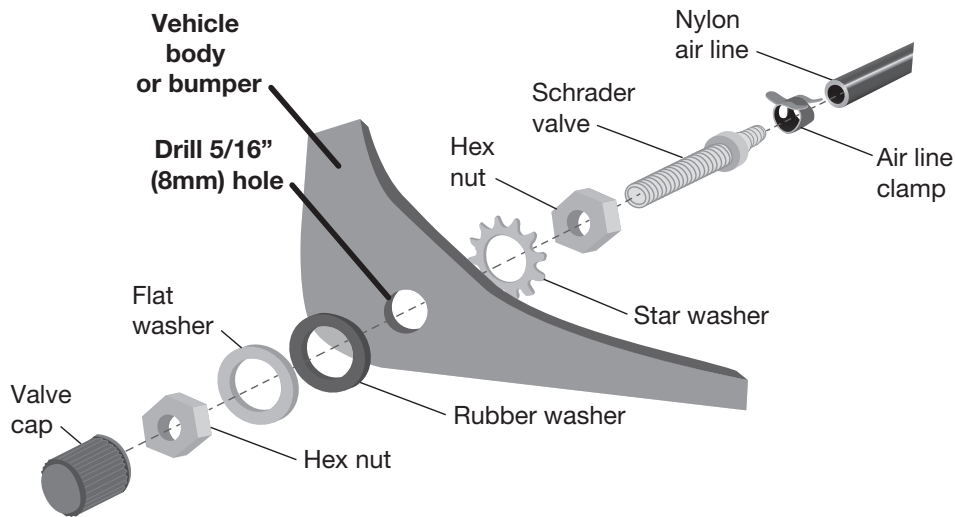

Fig. 16
6. Drill a 5/16" (8mm) hole for the Schrader valve (J) and mount as shown (Fig. 16). Install the air line on the Schrader valve first. The rubber washer (F) serves as an outside weather seal.